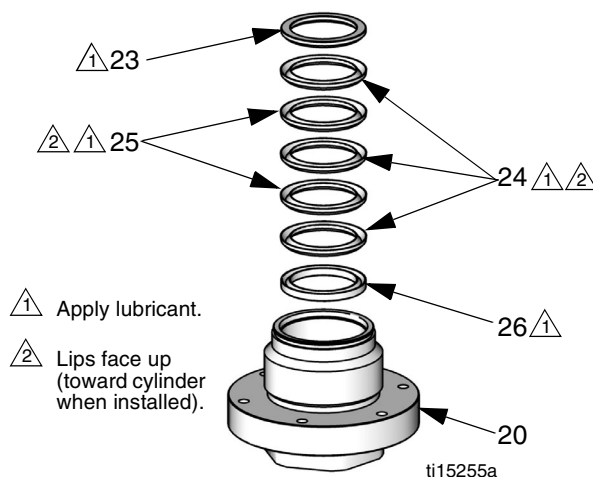
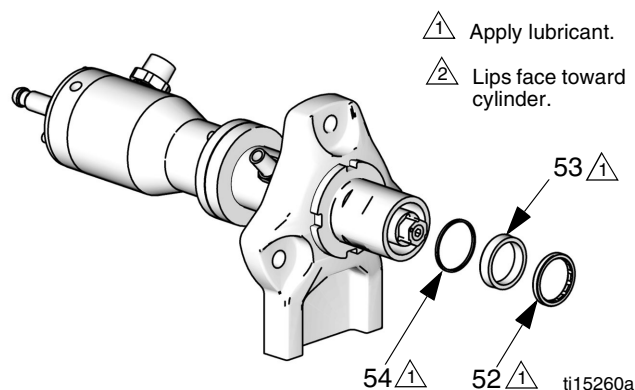

FIG. 10. Throat v-packings
FIG. 13. U-Cup piston seal
7. **U-Cup Models:** Remove the bearing (52), u-cup (53), and washer (54). See FIG. 13, page 13.
9. Remove the connecting rod (14) and bellows (7).
10. Use a 5 mm allen wrench to remove the three screws (17) and washers (18), then remove the bellows chamber (1). Remove and discard the bellows chamber o-ring (12).
11. Use a 54 mm (2 1/8 in.) socket wrench to remove the packing nut (20).
12. **V-Packing Models:** Remove the glands (23, 26), throat packings (24, 25), and spring (22). See FIG. 10, page 12.